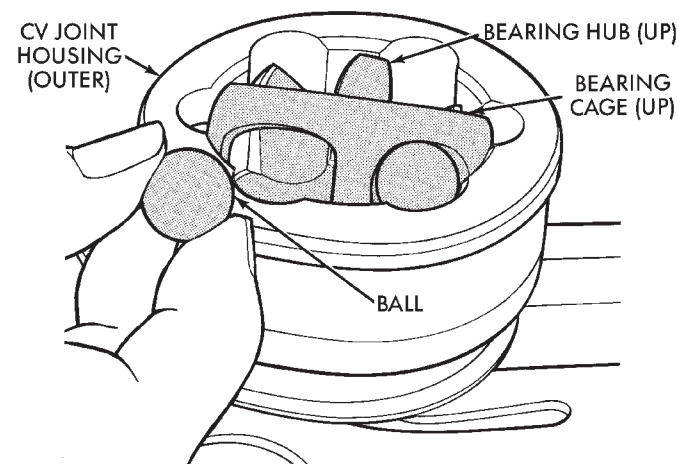

Fig. 15 Ball Removal
(9) Press down on one side of the bearing cage/hub to tilt the cage. This will provide access to a ball at the opposite side of the cage. If the C/V joint is tight, use a hammer and brass drift to loosen the bearing hub. **Do not contact the bearing cage with the drift.**
(10) Remove the ball from the bearing cage (Fig. 15). If necessary, a small pry bar can be used to pry the ball loose from the cage.